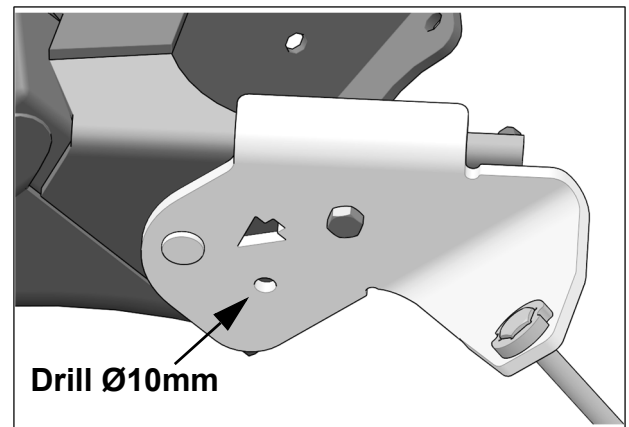

Fig. 9
8. Using the free anchor bracket hole as a template, drill out an additional  $\text{\O}10\text{mm}$  hole in trailing arm of vehicle. See Fig. 9